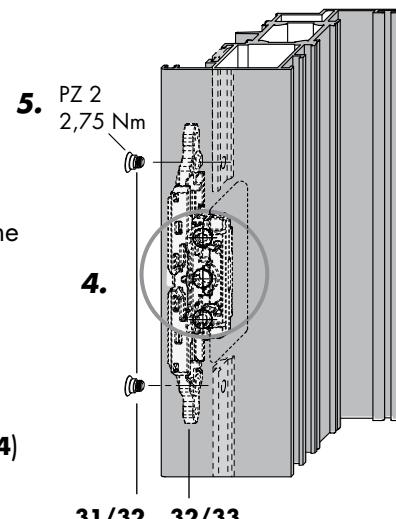

Figure 3
4. Insert the R-I DG LM M6 (pos. **32/33**) into the machined profile recess 72×15 (figure 3).
5. Screw-fix the R-I DG LM M6 (pos. **32/33**) with coupling screw M6 (pos. **31/32**) into the connecting rod's punched holes $\varnothing 5.2$ (PZ 2, torque $2.75 \text{ Nm} \pm 0.25 \text{ Nm}$) (figure 3).